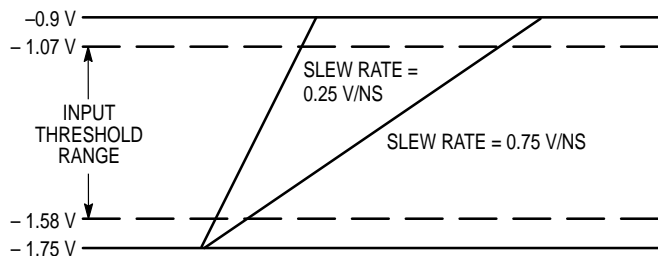

Figure 4. ECL Dispersion Test Input Conditions
3. Refer to Figure 4 and note that the input is at 850 mV ECL levels with the input threshold range between the 20% and 80% points. The delay is measured from the crosspoint of the input signal and the threshold value to the crosspoint of the Q and Q output signals.
Figure 4 and Figure 5 define a range of input conditions which incorporate varying input slew rates and input voltage overdrive. For input parameters that adhere to these constraints the propagation delay can be described as: